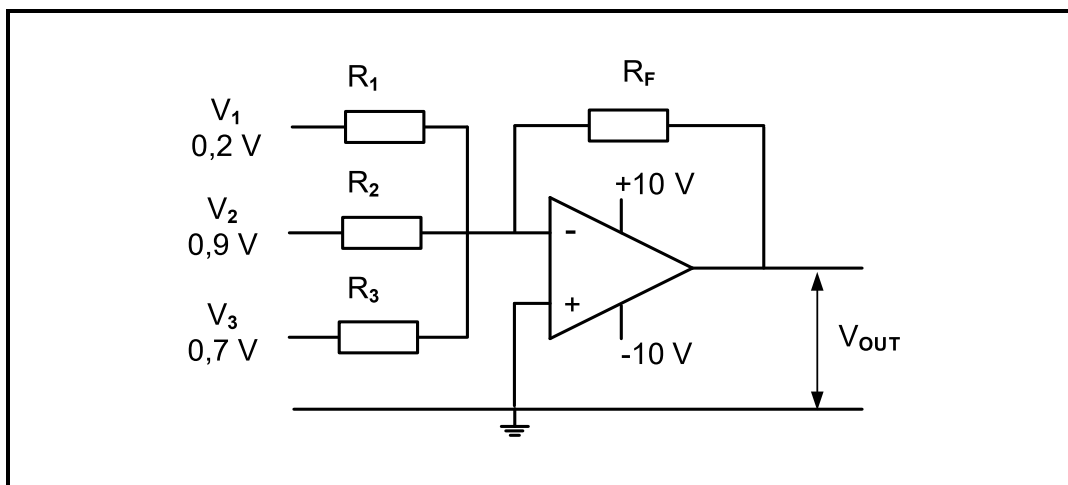

FIGURE 5.7: SUMMING AMPLIFIER
- 5.7 FIGURE 5.7 and TABLE 5.7 below show the resistor values, output voltages and gain of a summing amplifier. Refer to FIGURE 5.7 and study TABLE 5.7 to answer the questions that follow.